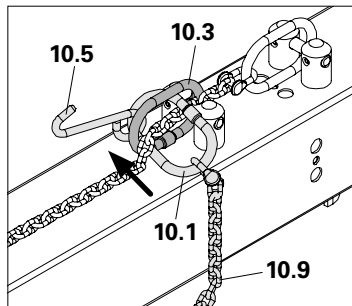

Fig. A3.04
4. Insert hook (10.5) and Ring 1 (10.1) through Ring 3 (10.3) and pull through. (Fig. A3.04)